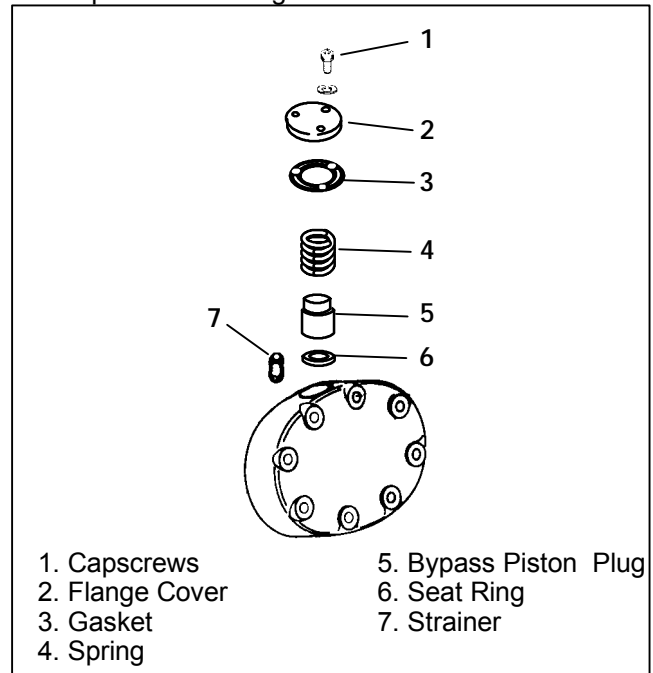

Figure 2-1. Removal of Piston Plug
- Remove the three socket head capscrews holding piston plug to cylinder head of the replacement compressor. See Figure 2-1.